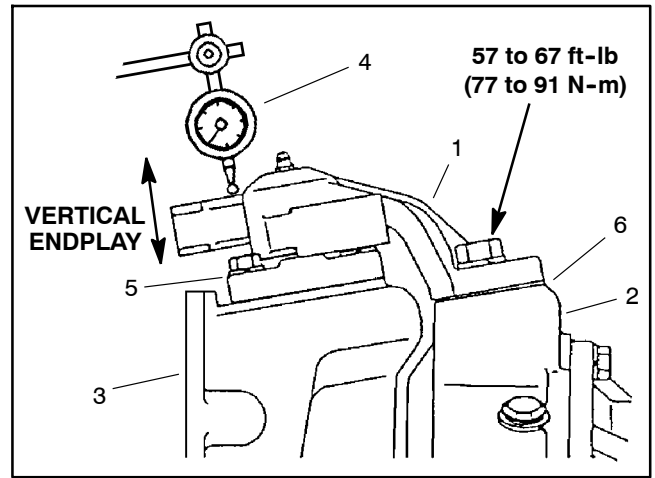

Figure 27
C. Use dial indicator to measure vertical endplay of axle case (Fig. 27).